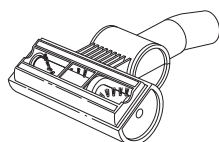

Fig. 26
- 3 Turn the pet power brush over to inspect the rotating brush and cut away any build-up of hair or string wrapped around the rotating bristle brush with scissors. (Fig. 26)